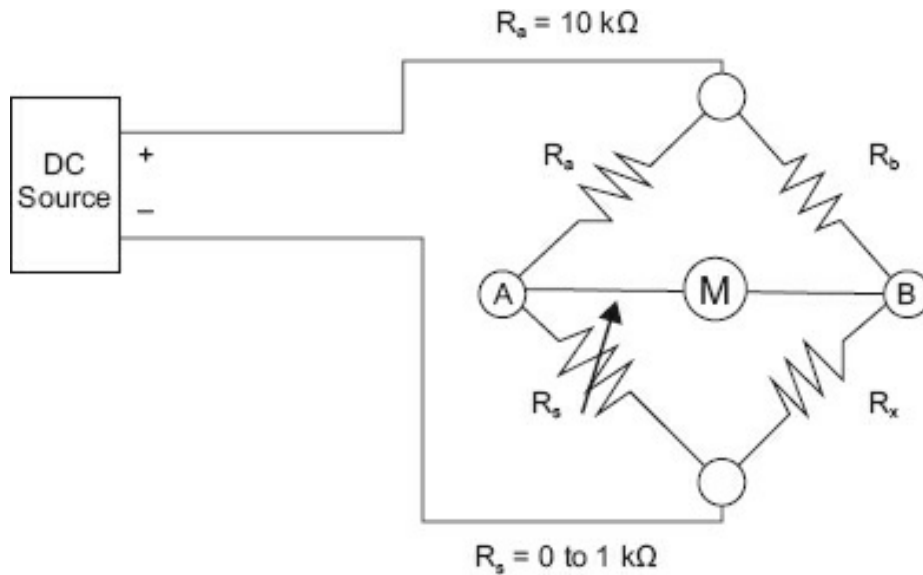

Figure R4-2.
2. Using Figure R4-2, determine the value of the multiplier resistor to measure res in the range of: